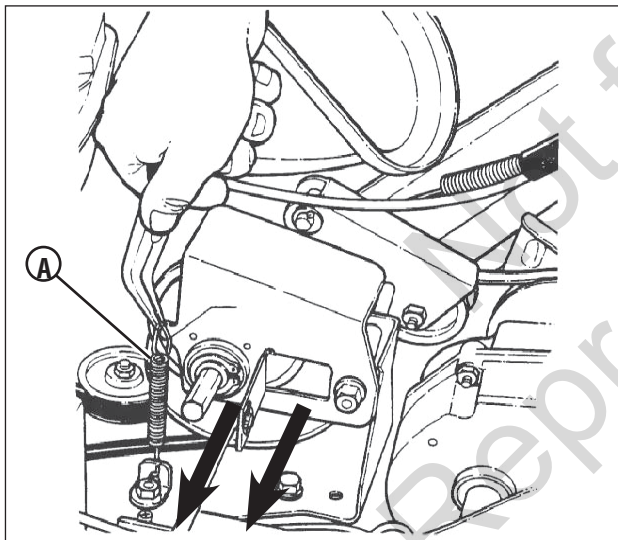

Figure 28: Removing the driven disc assembly
2. Using needle nose pliers, unhook the drive spring (**A**, **Figure 28**) and slide the driven disc assembly off the hex shaft.